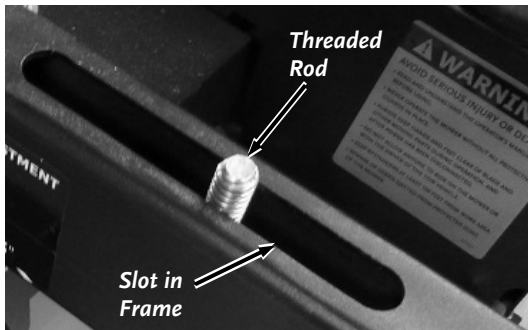

Figure 9
7. With the help of another person, position the Frame over the Deck Assembly with the Threaded Rods through the slots in the Frame (**Figure 9**).